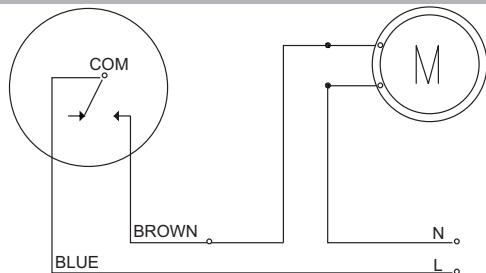

Figure 2-Emptying (NO) Function
The Series FSW2 features a variety of different cable options. One of these options includes the selection between SPST and SPDT. SPST, single pole single throw, allows a single operating function with the choice of operation on increasing level (NC/filling) or operation on decreasing level (NO/emptying), depending on the model selection. SPDT, single pole double throw allows for operation of both increasing and decreasing level, depending on the connections made between the terminals of the micro-switch and the cable. SPDT, which is a four-conductor cable (ground option) or a three-conductor cable (without ground option), has one lead that is common, one that is normally open (NO), and the other that is normally closed (NC), for the proper connections of these conductors please refer to the wiring diagrams in Figures 2 to 9.